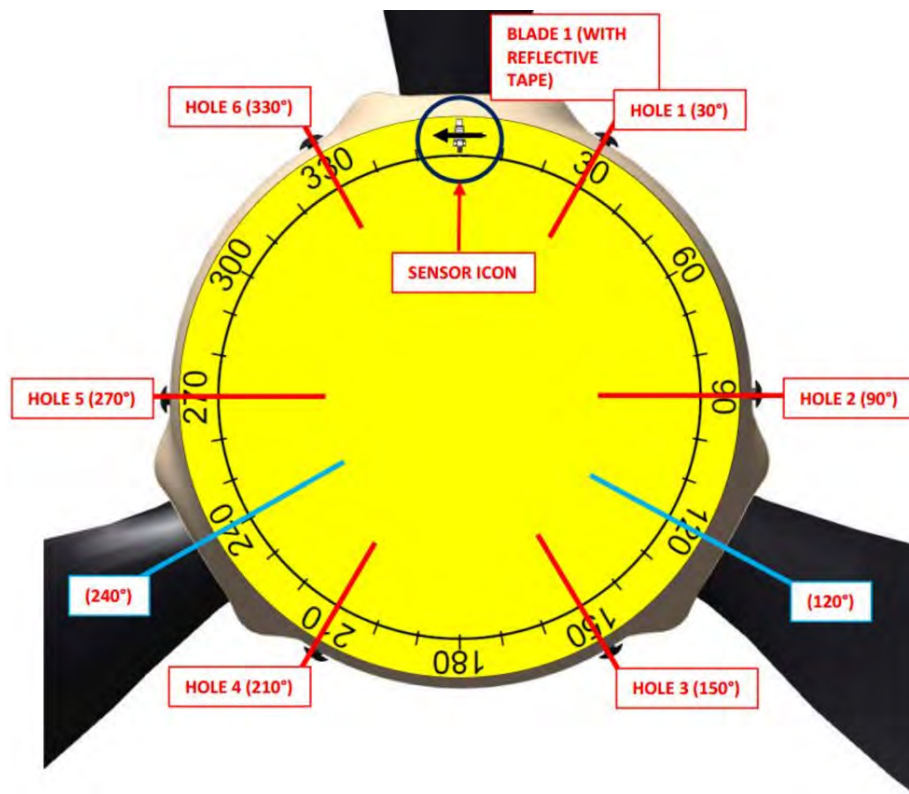

FIGURE 17-63
12. Use the protractor and Figure 17-63 to select one of the six holes that best matches the suggested location for installing washers.